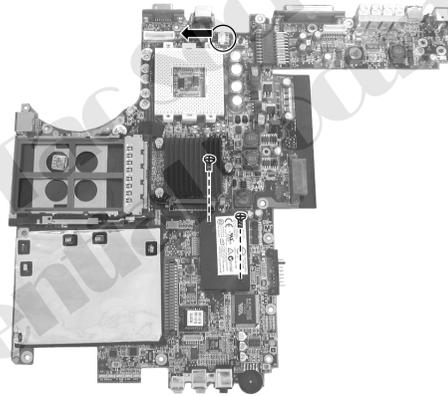

Figure 2-32 Remove the Modem card
3. Remove the two screws fastening the modem card, and then disconnect the cable from system board. (Figure 2-32)